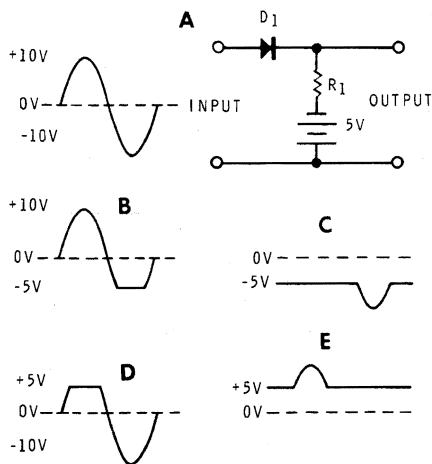

Figure 6-19
16. (-4.3 volts) Thus, the output of the circuit will have the appearance shown in Figure 6-19 \_\_\_\_\_.